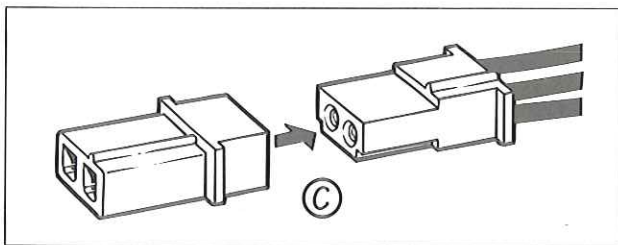

FIG. 6
4. Install the pin housing onto the connector at the end of the solenoid harness (C). Push the pin housing until it "clicks" (see Fig. 6).